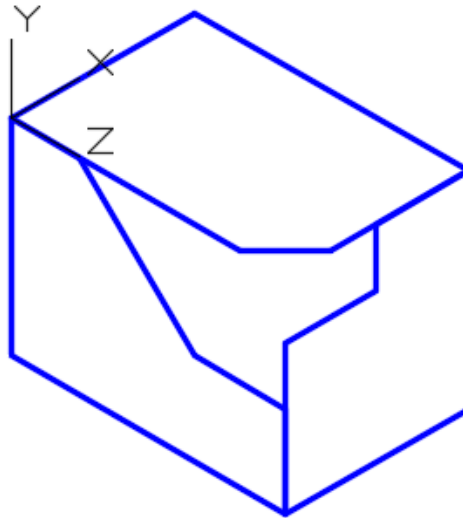

Figure Step 8
Step 8 Set the current UCS to Top and relocate it to the top corner of the model as shown in the figure. Using the PLINE command, draw a closed pline of the contour of the top view. (Figure Step 8)